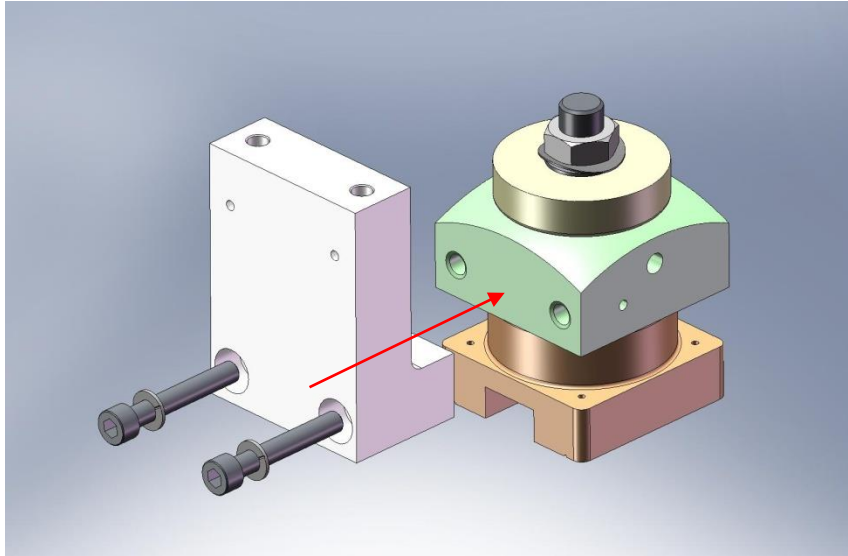

Figure 4.42. Vertical Sensor Head Bracket mounted to Sensor Head Mount.
- For each of (3) **Vertical Position Sensor Assemblies**, attach **Vertical Sensor Head Bracket** (D071175) to **Sensor Head Mount**, as shown in Figure 4.42. Add screws and torque to final spec.